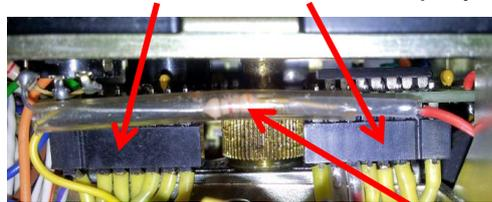

Figure 2
- Carefully plug the two pin headers connections back to the new display board (see Figure 2).